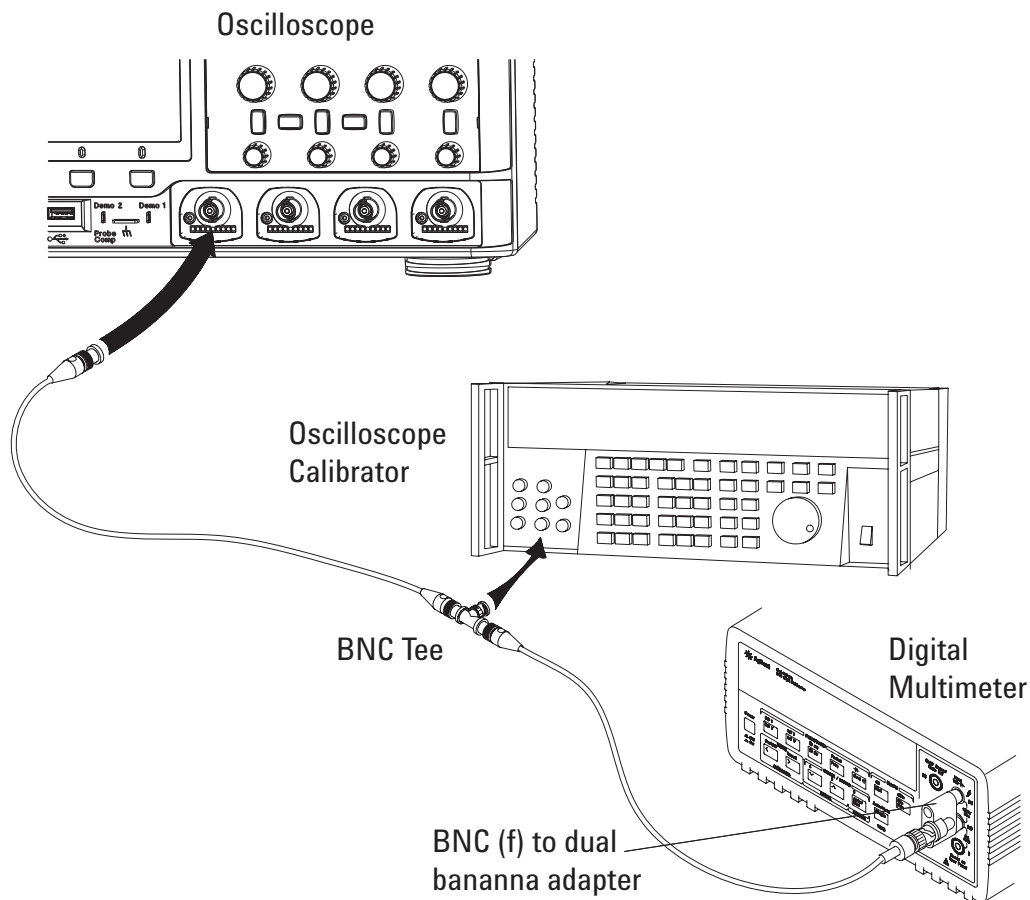

Figure 3 Setting up Equipment for DC Vertical Gain Accuracy Test
- 5 Use the BNC tee and cables to connect the oscilloscope calibrator /power supply to both the oscilloscope and the multimeter (see Figure 3).